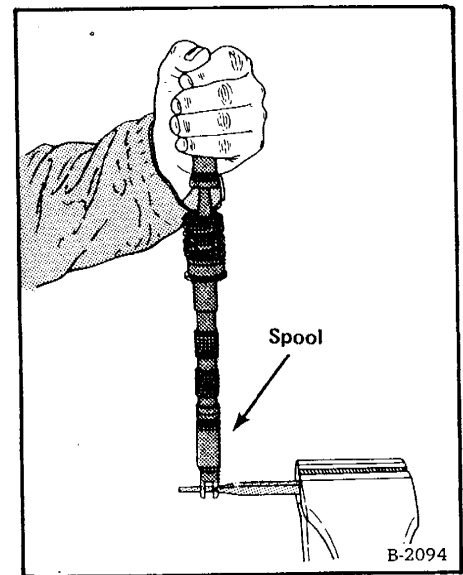

Fig. 2-27 Removing Detent Spring
- (1) Remove the detent rod (Item 8) and hit the end of the spool on a hard surface. The 4 steel balls will fall out (Item 9).
- (2) Hold the spool in a vise as shown, and use a large screw driver to remove the float detent sleeve (Fig. 2-27).